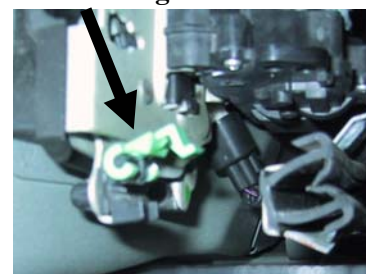

Figure C-3
➔ **Step 5:** Unclip the pull rod that is attached to the green clip, use a flat bladed tool to release the rod from the clip, you can access this clip from inside of the door. (Fig. C-3)
**Step 2:** Insert handle into door and attach pull rod to green clip. **(Fig. C-3)**